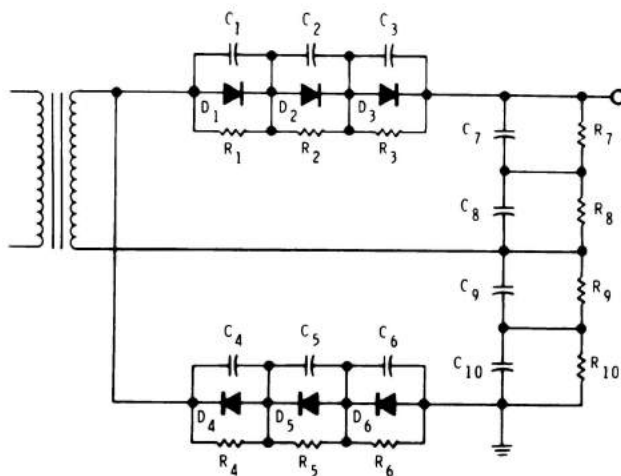

Figure 4-24
6. Identify the circuit shown in Figure 4-24. _____
7. What is the purpose of connecting D_1 , D_2 and D_3 in series in Figure 4-24? _____
8. What is the purpose of C_1 - C_3 and R_1 - R_3 in Figure 4-24? _____
9. What is the purpose of connecting C_7 and C_8 in series in Figure 4-24? _____
6. The circuit shown in Figure 4-24 is a full-wave voltage doubler.
8. The purpose of C_1 - C_3 and R_1 - R_3 in Figure 4-24 is diode protection. C_1 - C_3 provide transient protection, while R_1 - R_3 equalize the inverse voltage across the diode.